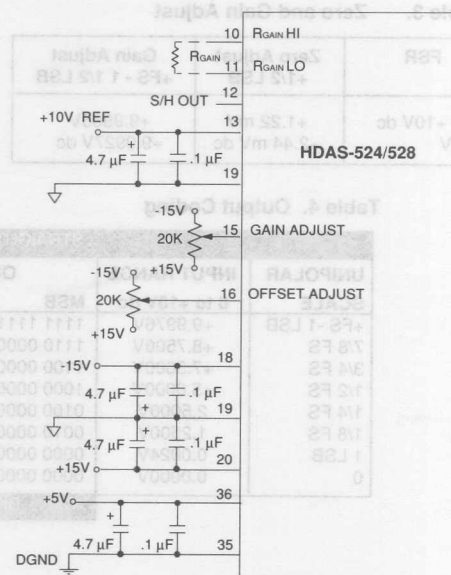

Figure 2. Typical Connection Diagram
1. Connect the converter per Figure 2 and Tables 2 and 3 for the appropriate full-scale range (FSR). Apply a pulse of 100 nanoseconds (typical) to the START CONVERT input (pin 40) at a rate of 100 KHz. This rate is chosen to reduce flicker if LED's are used on the outputs for calibration purposes.